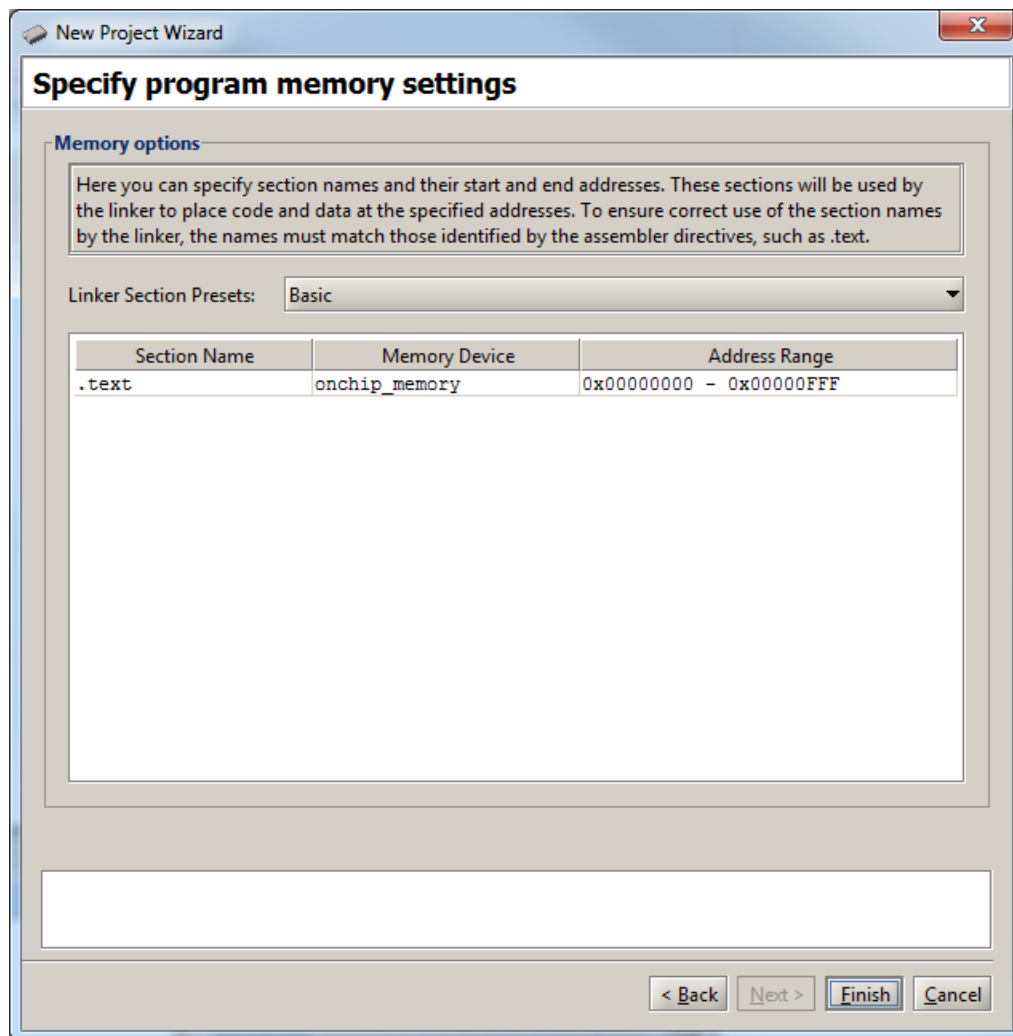

Figure 31. Specify where the program will be loaded in the memory.
8. The Monitor Program also needs to know where to load the application program. In our case, this is the memory block in the FPGA device. The name assigned to this memory is *onchip\_memory*. Since there is no other memory in our design, the Monitor Program will select this memory by default, as shown in Figure 31.